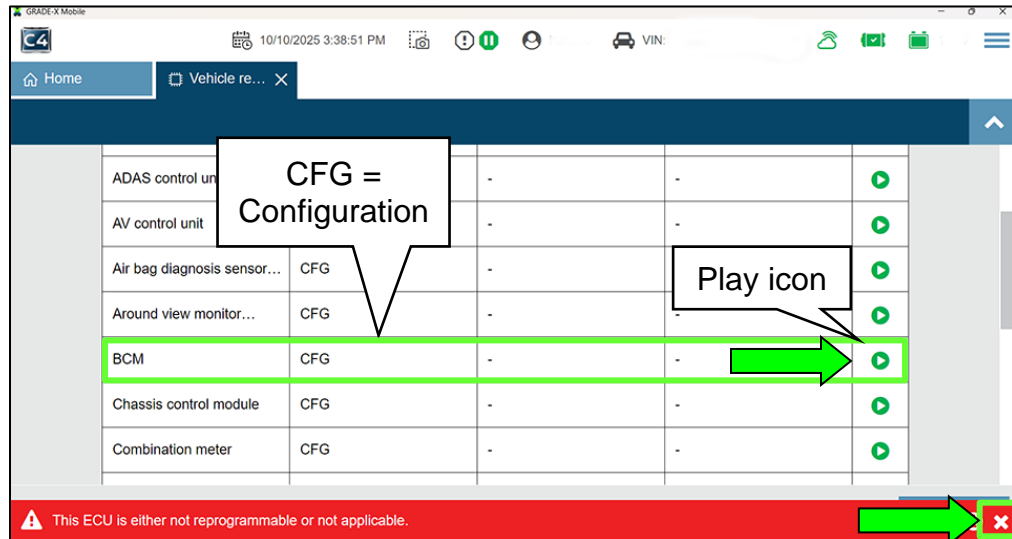

Figure 13
- Select the “**X**” at the bottom RH corner, as shown in Figure 13.
- Select the “**Play**” icon for BCM, as shown in Figure 13.